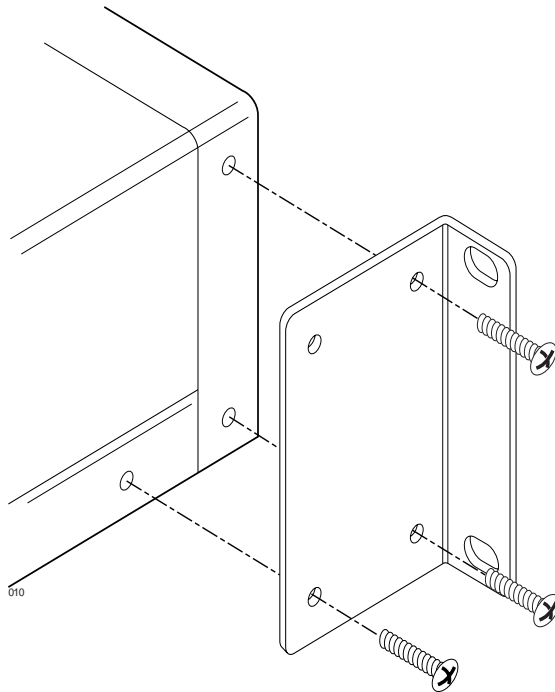

Figure 7 Position Mounting Brackets for Rack Mount
1. Connect the two mounting brackets to the switch using the supplied screws as shown in Figure 7.